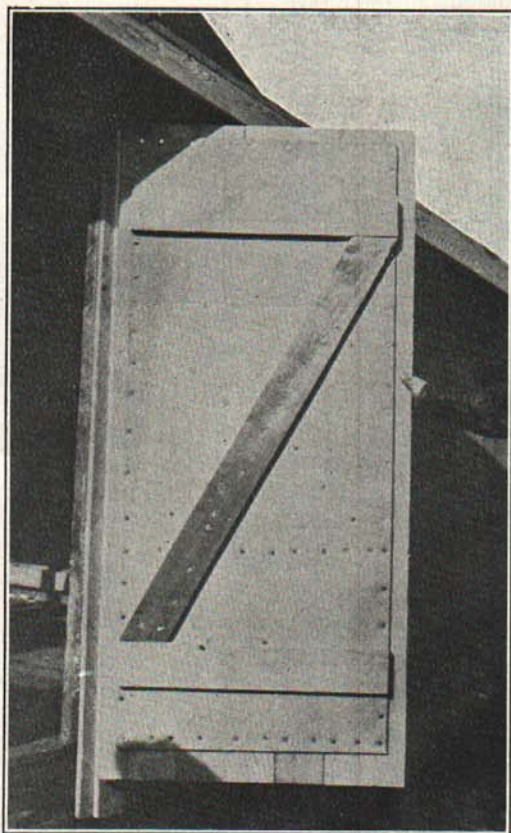

Fig. 4.—Doors are a part of the wall and therefore should be insulated.
**Doors**—The doors are part of the wall and should be insulated in the same way, see Fig. 4. The main door at one end is 32 by 66 inches hinged to open outward. Two small doors 12 by 16 inches are constructed in the front wall for the chicks.